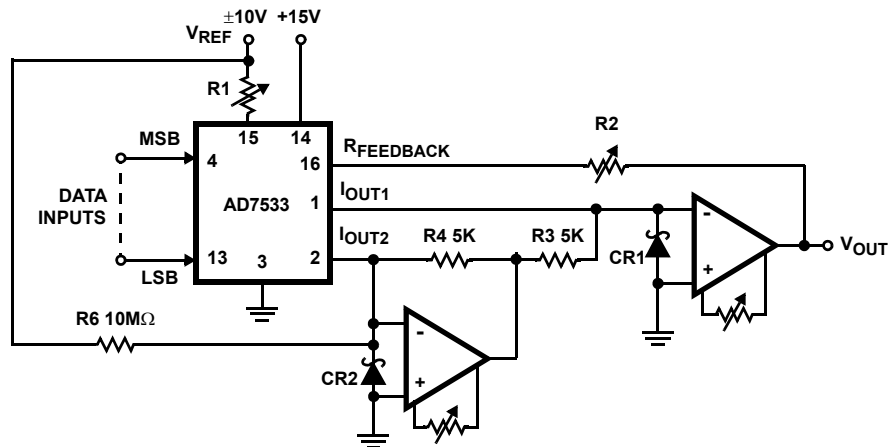

FIGURE 3. BIPOLAR OPERATION (4-QUADRANT MULTIPLICATION)
The circuit configuration for operating the AD7533 in the bipolar mode is given in Figure 3. Using offset binary digital input codes and positive and negative reference voltage values, 4-Quadrant multiplication can be realized. The “Digital Input Code/Analog Output Value” table for bipolar mode is given in Table 2.
12. V_{OUT} as shown in Figure 3.
13. Nominal Full Scale for the circuit of Figure 3 is given by:
14. Nominal LSB magnitude for the circuit of Figure 3 is given by: